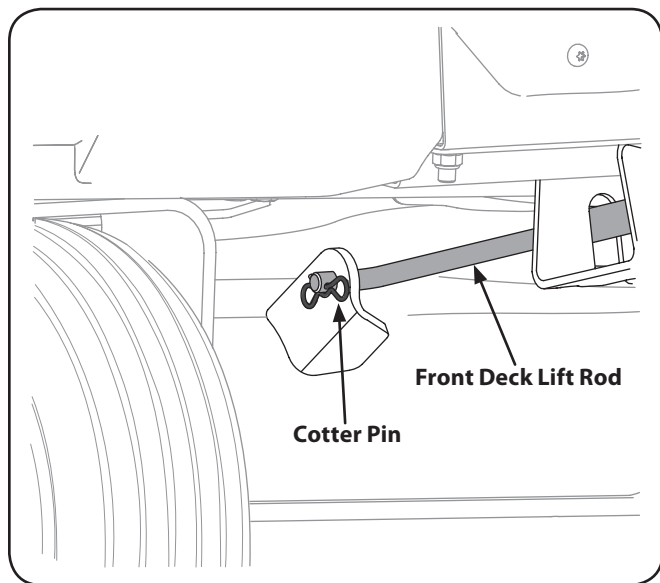

Figure 7-6
- Pull the cotter pin out of the front deck lift rod securing it to the deck. See Figure 7-6. Slide the deck lift rod out of the front hanger bracket.
- Reinstall the front deck lift rod and secure in place with the cotter pin. Refer to Figure 7-6.